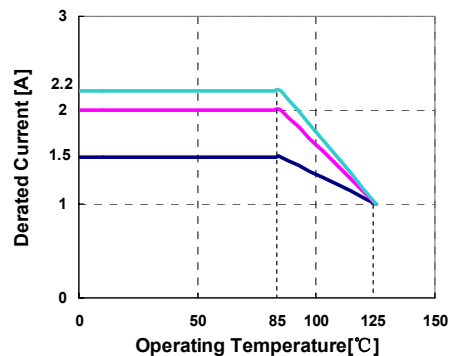

**Fig. 5.3.3-1**
- d. Definition of Rated Current (Ir): Ir is direct electric current as chip surface temperature rose just 20°C against chip initial surface temperature (Ta) (see **Fig. 5.3.3-2**)